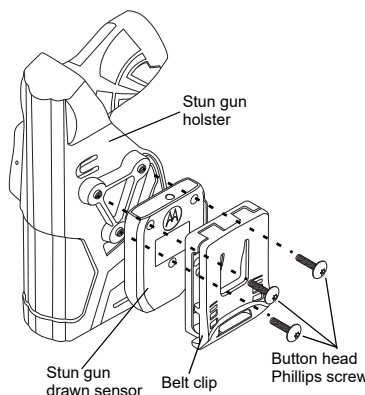

Figure 3: Installing the sensor within the stun gun holster and belt clip
1. Arrange the components as in Figure 3 with the sensor within the holster and belt clip by facing the M-logo toward the belt clip.